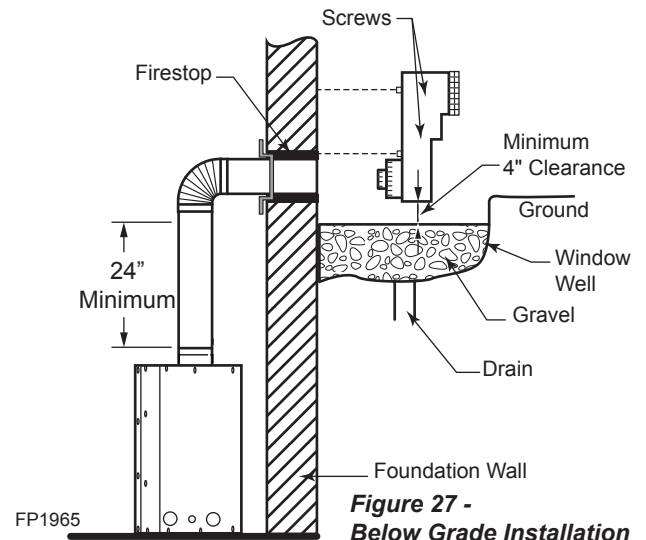

Figure 27 - Below Grade Installation
2. Remove soil to a depth of approximately 16" below base of snorkel. Install drain pipe. Install window well (not supplied). Refill hole with 12" of coarse gravel leaving a clearance of approximately 4" below snorkel. Figure 27.
7. Level the soil so as to maintain a 4" clearance below snorkel. Figure 27